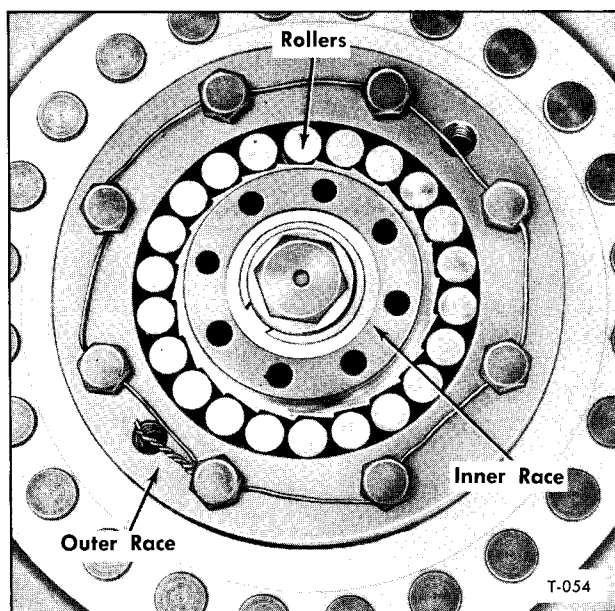

Figure 15—Overrunning Clutch Rollers and Races
4. Install 22 rollers between inner and outer races (fig. 15).